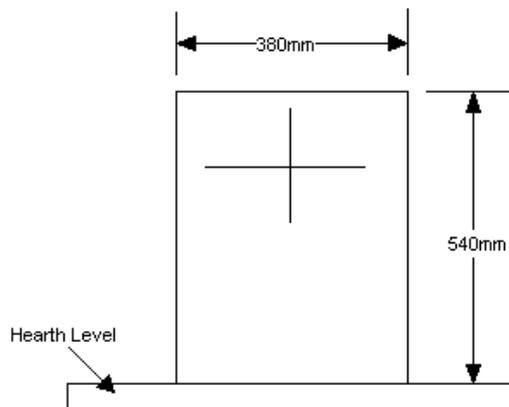

FIGURE 6
- 3 Above the hearth level line draw a rectangle 540mm high and 380mm wide (See Figure 6). Cut away the plaster and inner leaf of the brickwork at this line to expose the outer leaf.